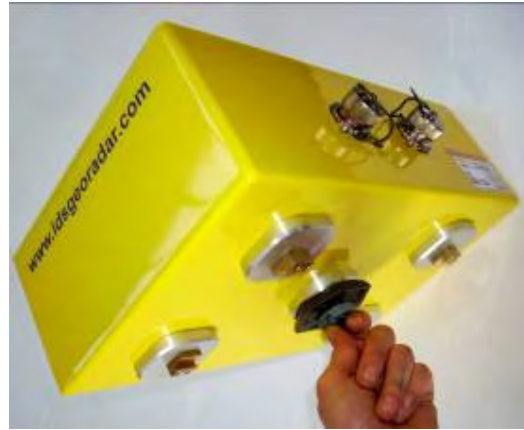

Fig. 5.9 – Metallic nut
15. Insert the quick lock hexagon screw into the threaded hole on the bottom of the sensor , working on the metallic nut (Fig. 5.9);